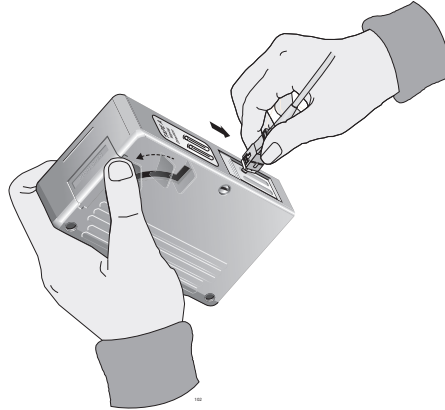

Figure 31. Rubbing the Ferrule Tip on the Cleaning Surface
1. With one hand, hold the cartridge cleaner and push the lever on the cleaning cartridge in the direction of the arrow to expose the cleaning surface, as shown in Figure 31 on page 61.
2. Place the ferrule tip on the exposed cleaning surface and rub the ferrule in a downward direction, as shown in Figure 31 on page 61.